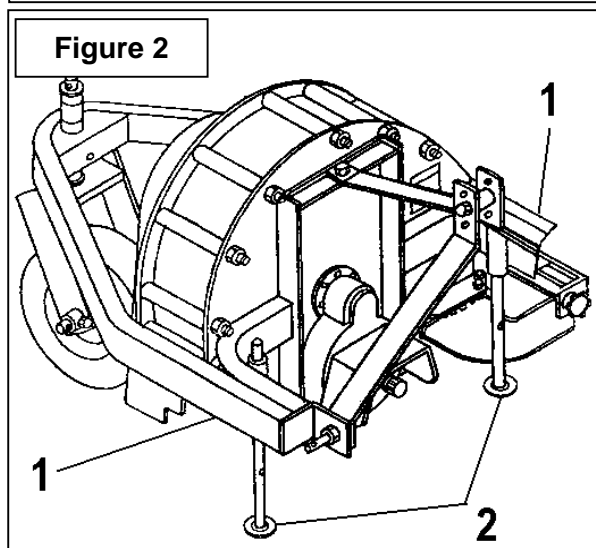

Figure 2
2. **Figure 2:** Attach tractor upper and lower links to blower attaching frame (item 1). Adjust anti-sway blocks and upper link so that the main frame is level.
5. **Figure 2:** Set parking stands (item 2) in raised position by placing hair pin on upper side of stand support.